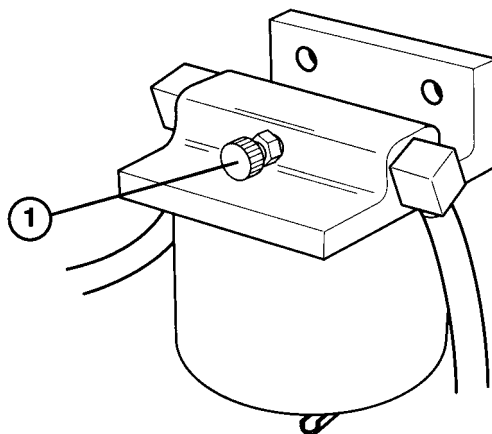

Figure 15
- 2. Loosen the air bleed screw on top of the fuel filter/water separator (Fig. 15)